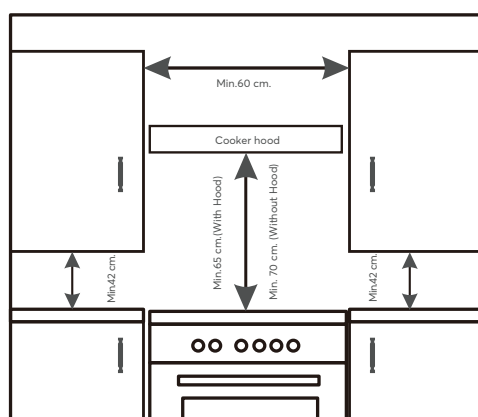

Figure 1
d. Place the wall cabinets adjacent to the hood at a minimum height of 42cm from the hobs as indicated in figure 1.
- f. Should the cooker be installed beneath a wall cabinet, the latter should be situated at least 70 cm away from the hobs as indicated in figure 1.
- g. The cut-out for the cooker cabinet should have the dimensions indicated in the figure 1.